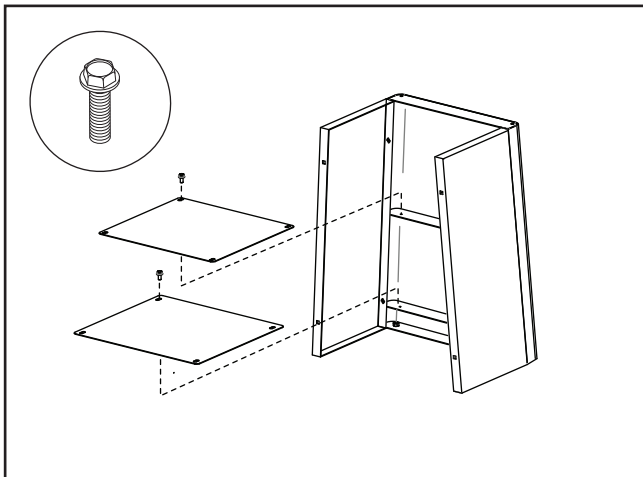

Figure 7. Shelf installation.
2. Fasten the upper and lower shelves, as shown in **Figure 7**, using (8) M6-1 x 12 flange bolts.